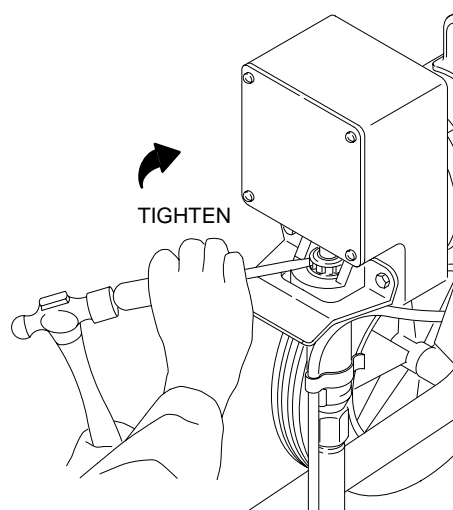

Fig. 5
1. **Check the packing nut/wet cup daily.** First, follow the **Pressure Relief Procedure Warning**, page 4. The packing nut should be tight enough to stop leakage – no tighter. Use a rod and a light hammer to adjust the nut. See Fig. 5. Don't over-tighten! Overtightening may cause binding and excessive packing wear.